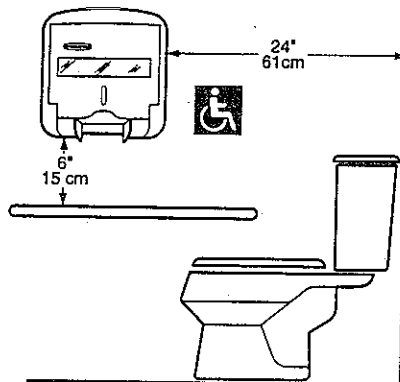

Figure 2
1. Locate the dispenser on the stall wall according to Figure 1. For a handicapped stall, locate according to Figure 2.